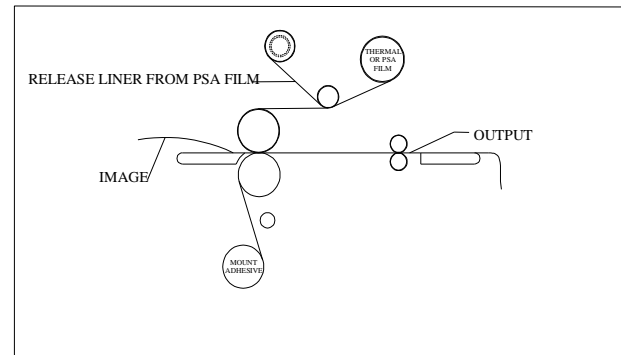

Fig. 18
1. Load the laminator as illustrated in Fig. 18.